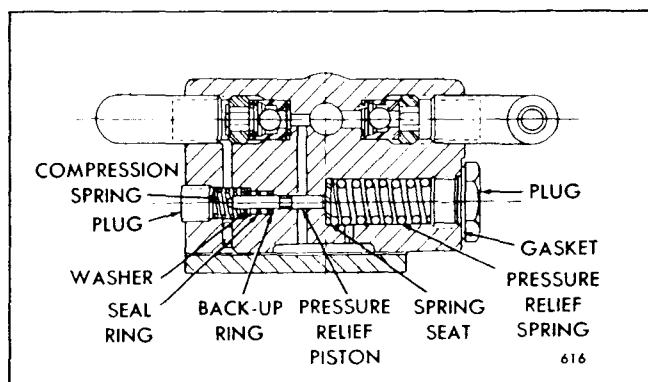

Fig. 13 - Engine-Driven Hydrostarter Charging Pump Pressure Relief Piston Assembly
3. Coat the back-up ring and seal ring liberally with hydraulic fluid. Then insert the relief piston assembly into the pump body, the flat end of the piston first, using installer J 7192. Apply manual force to the installer in order to gradually work the back-up ring and seal ring into the counterbore around the pressure relief piston. Care must be taken to avoid cutting the seal ring as it is worked into place. Refer to Figs. 13 and 14.